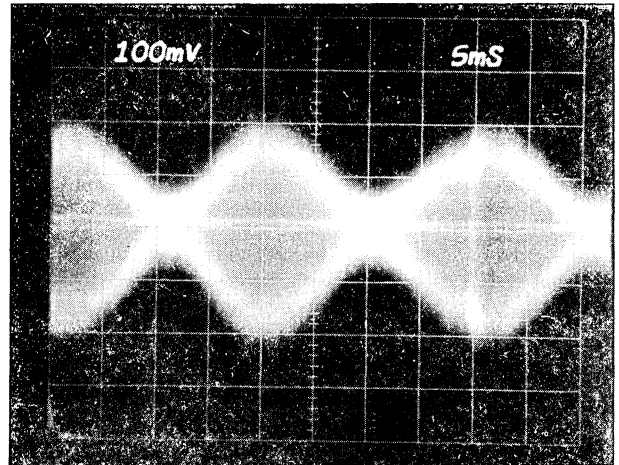

Figure 5-12 WAVEFORMS
11. Monitor TP2 of PCB J10. The signal from the lower head will normally be selected and its output seen at TP2. The upper head may be selected for observation of its output at TP2 by grounding TP5 on PCB J10. Both heads should be checked. A correctly aligned head will meet the standard shown in Figure 5-12. See Adjustment Procedures immediately following this section if the above is not true.